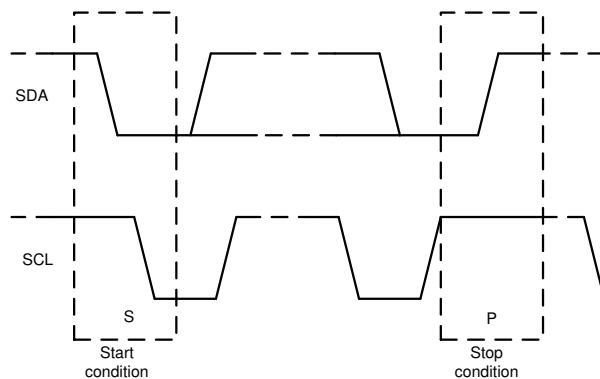

Figure 7-15. Start and Stop Conditions
1. The controller initiates data transfer by generating a start condition. The start condition is when a high-to-low transition occurs on the SDA line while SCL is high, as shown in Figure 7-15. All I²C-compatible devices recognize a start condition.
4. To signal the end of the data transfer, the controller generates a stop condition by pulling the SDA line from low-to-high while the SCL line is high, as shown in Figure 7-15. This action releases the bus and stops the communication link with the addressed target. All I²C-compatible devices recognize the stop condition. Upon receipt of a stop condition, the bus is released, and all target devices then wait for a start condition followed by a matching address.